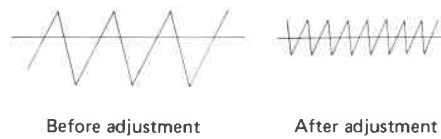

Fig. 5
1. Adjust VR3 in order to reduce the amplitude of the oscilloscope waveform to a minimum, and obtain symmetry about the horizontal axis (see Fig. 5).